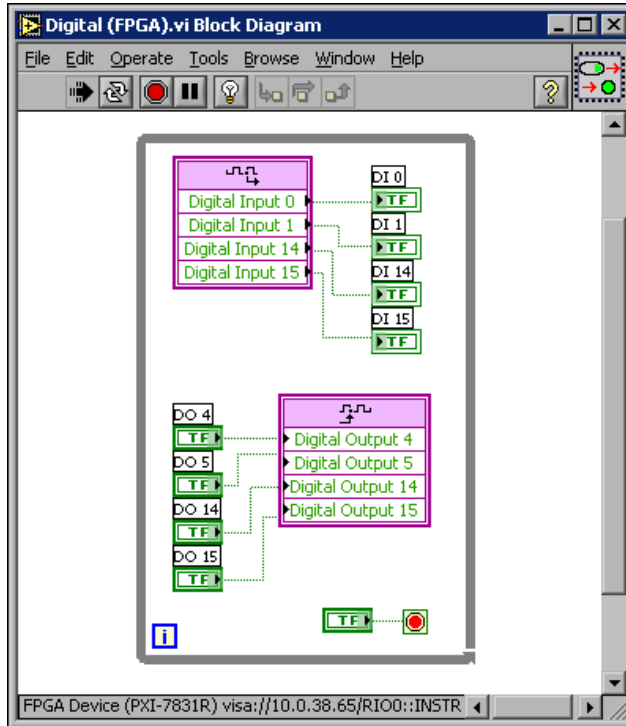

Figure 7. Block Diagram of the FPGA VI
9. Select **Window»Show Block Diagram** to view the block diagram, as shown in Figure 7. Notice how the indicators and controls are wired to the Digital Input and Digital Output functions.